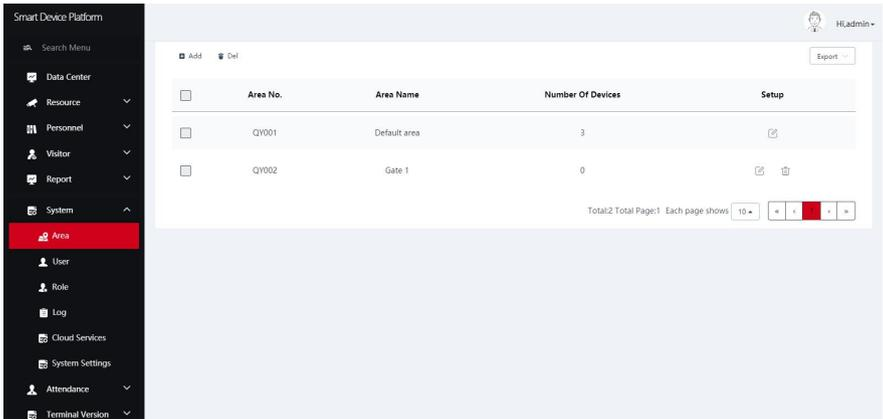

Figure 5-63
Step 1: In the smart device platform interface, click "System→Area" to enter the area management interface, as shown in Figure 5-63 below.